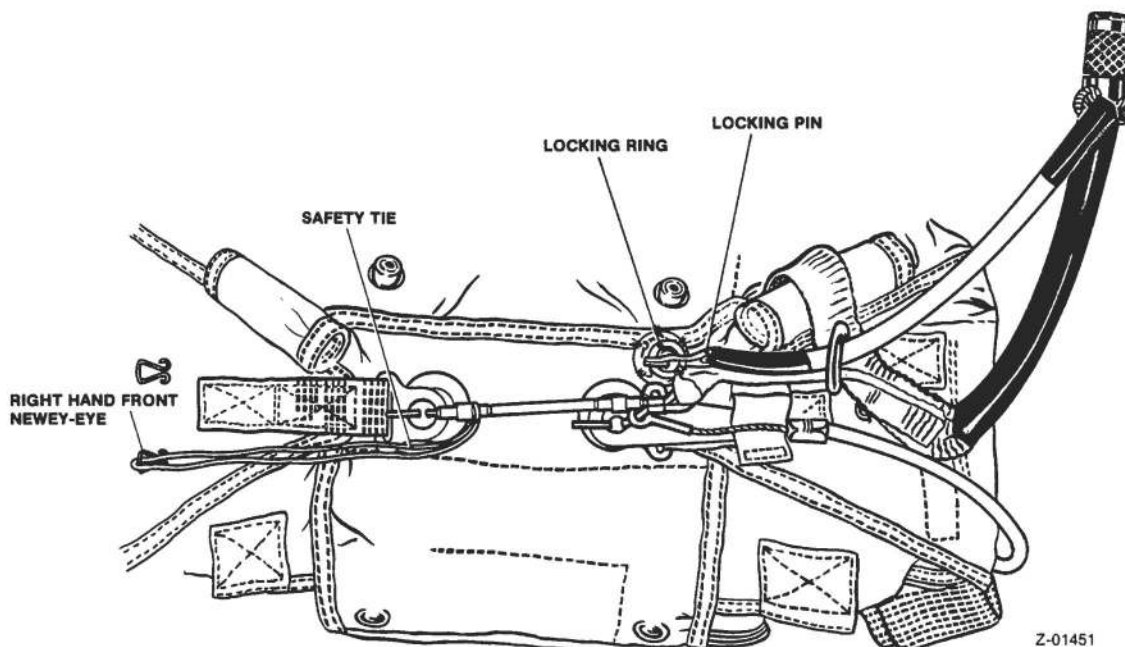

Fig 6 Parachute safety tie
24.9 Place the parachute assembly in the seat pan. Carefully open the protective flap, check that the rip-cord cable pins are correctly positioned through the cones and that the scarlet cotton tie securing the right hand pin is unbroken. Check that the locking ring is positioned over the locking cone and that the STRAIGHT leg of the locking pin is through the cone to retain the ring in position (fig 6). Close the flap. Ensure that the harness is not either entangled or twisted and place the parachute on the support bracket, engaging the spring clip under the arch of the pack with the front edge of the support arch.